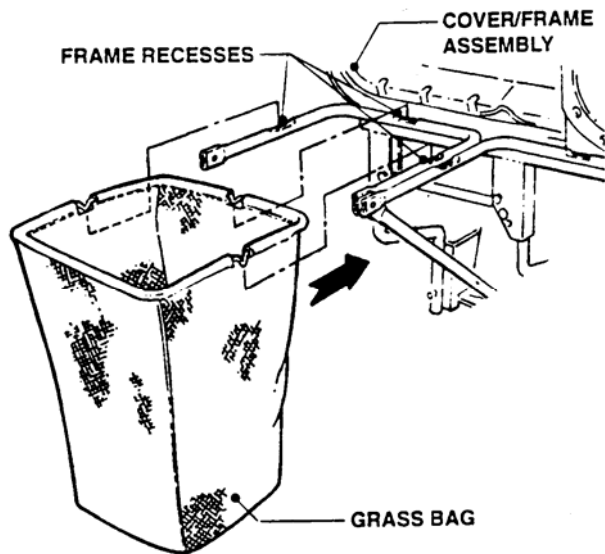

FIGURE 8
STEP 8: Bag Installation. Insert both grass bags onto frame. Make sure the grass bag frame notches fit into the frame recesses. See Figure 8.